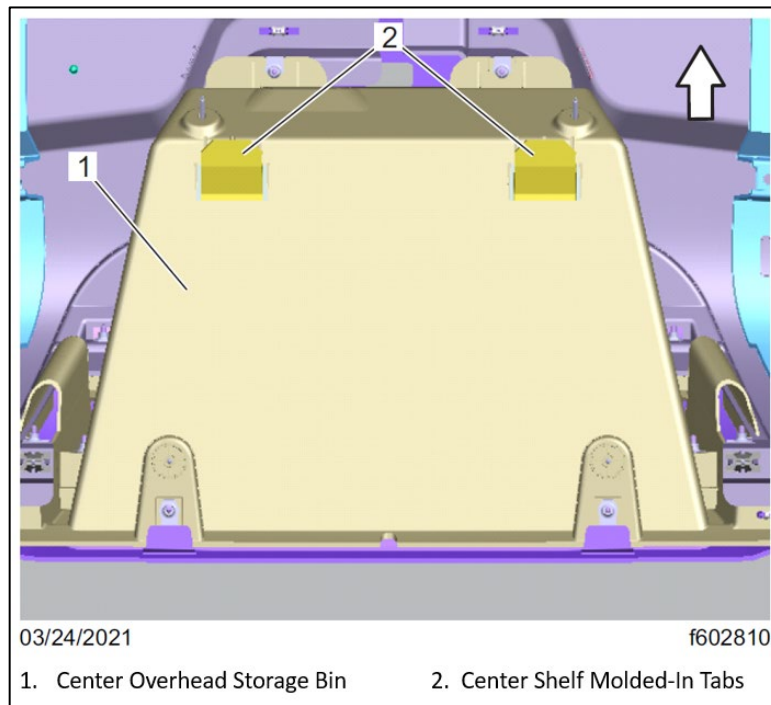
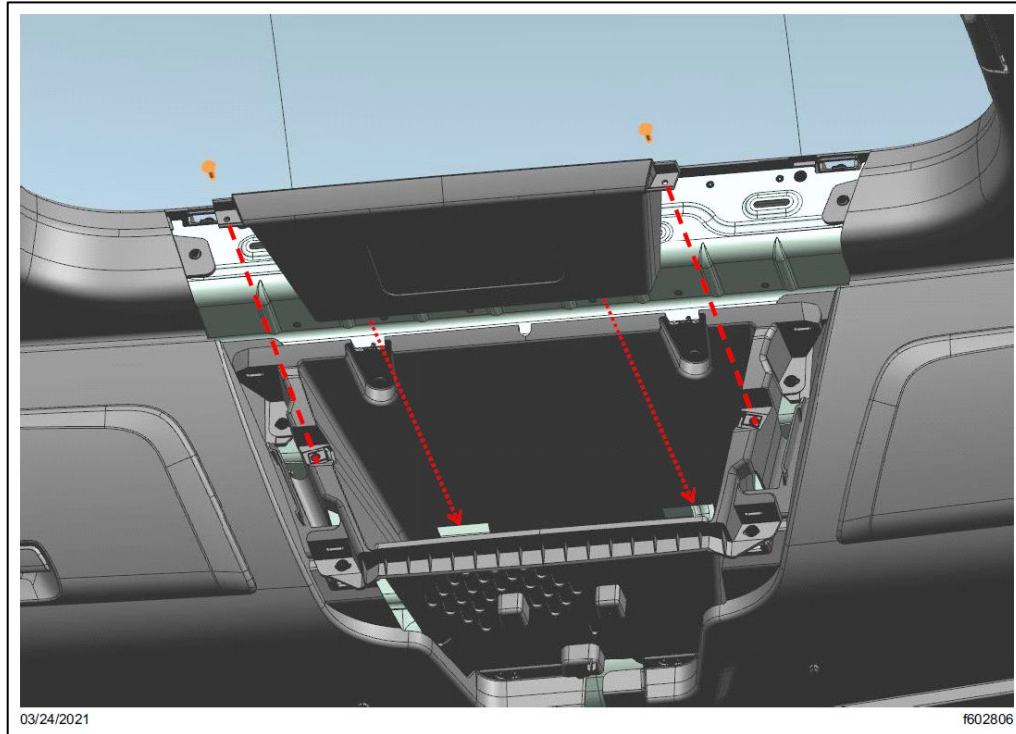

Fig. 66, Inserting Center Shelf Molded-In Tabs
Fig. 67, Center Shelf Installation
14.6. Place the center shelf into position by inserting the molded-in tabs into the slots on the center overhead storage bin. Install the two fasteners that attach the center shelf to the center overhead storage bin. See Fig. 66 and Fig. 67. Tighten the fasteners 5 to 7 lbf.ft (6 to 9 N.m).